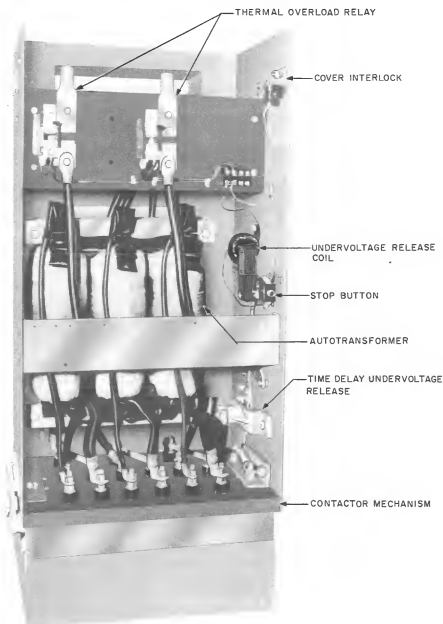

Fig. 2 - KS-5140-01 Manual-type AC Starter — Forms K33 and G150
1.02 This section is reissued to revise the title, to add operate requirements and test procedures for overload relays, to add the form G150 starters, to add the CR2824-41M and -42G relays, to remove information covering the selection and replacement of heater elements on nonadjustable relays, to revise the list of tools, gauges, and materials, and to add Fig. 2, 3, 8, and 13. In addition, the phi (ϕ) sign and the asterisk (*) sign have been added.